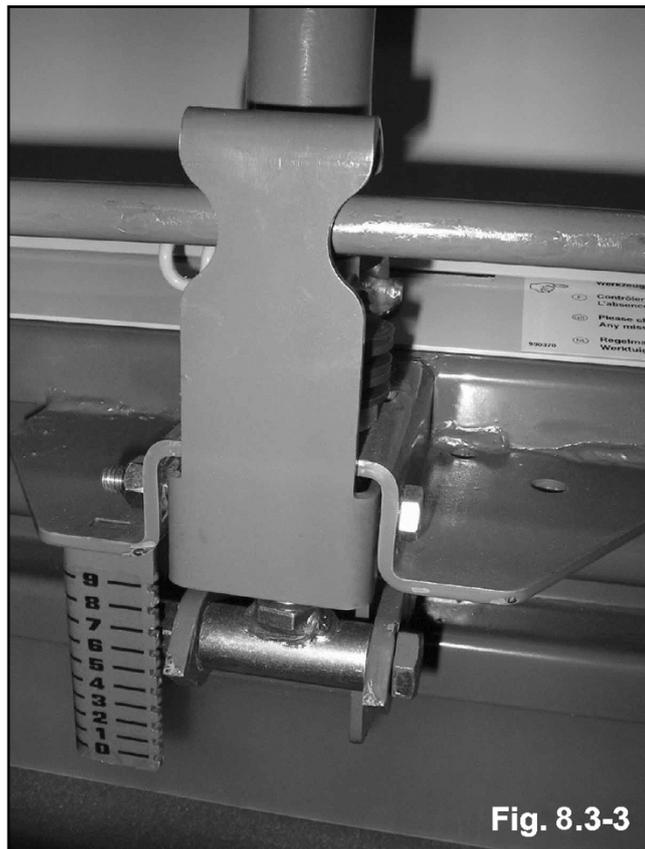

Fig. 8.3-3
- Turn to set the desired cutting height (Fig. 8.3-3),